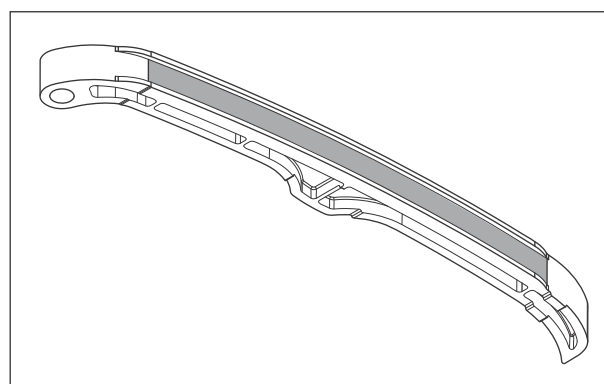

Fig. 3.69
- Inspect the tensioner cam chain for any distortion / damage, cuts or crack. If found any of the above, replace the tensioner with new one. (Fig. 3.69)